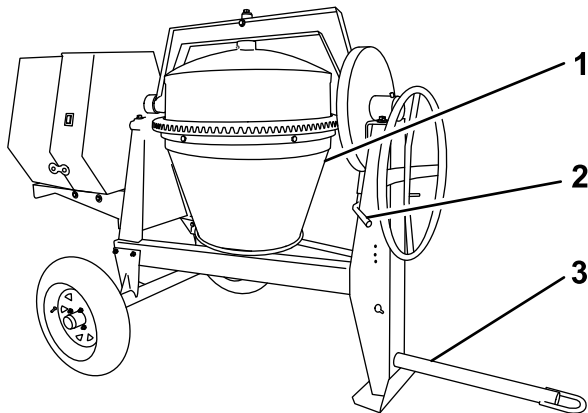

Figure 16
3. Using the handwheel, position the drum so that it is pointing down toward the ground (Figure 16).